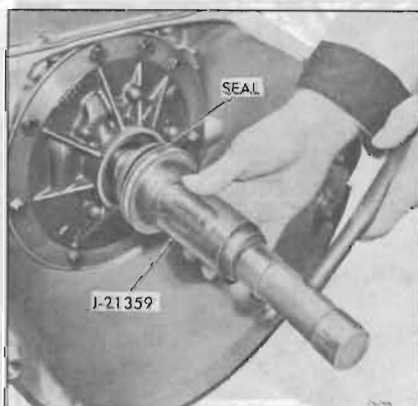

Figure 74-764
23. If necessary, install a new front seal, using Tool J-21359, to drive the seal in place. See Figure 74-764.